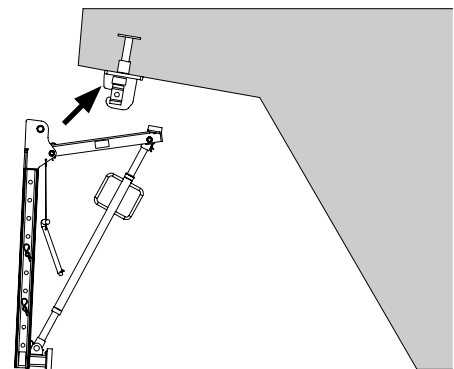

Fig. B1.03c
4. Attach bracket unit to the Suspension Head and secure by means of locking pins (2.1a) and cotter pins. (Fig. B1.03c)
5. Vertically adjust bracket unit with Kicker AV 111 or AV 140. (Fig. B1.03c + B1.03d)